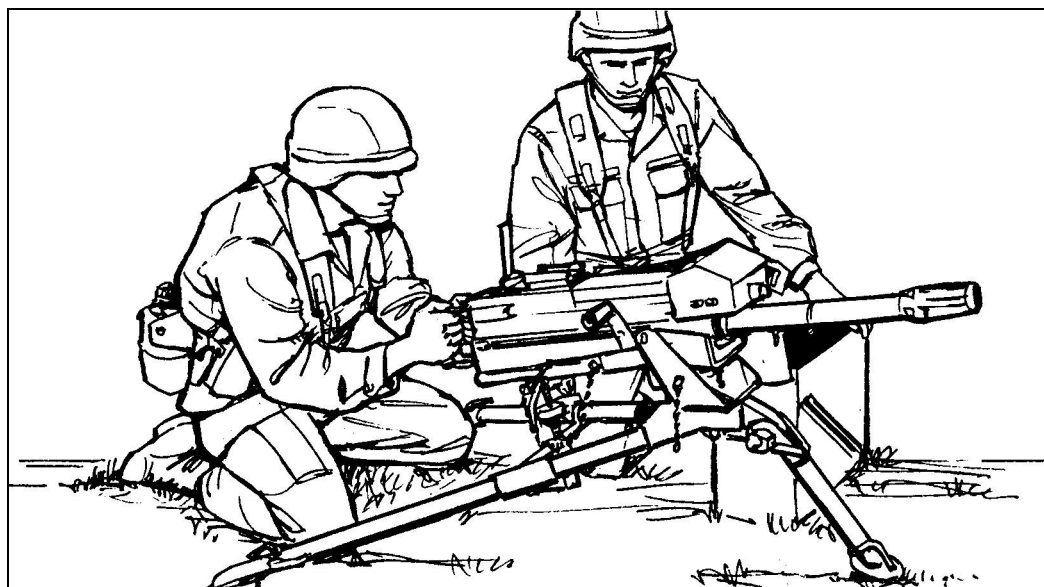

Figure 4-3. Hasty tripod position.
c. **Kneeling.** When the MK 19 is in a fighting or hasty tripod-mounted position, kneel and grasp the control grips with your thumbs on the trigger (Figure 4-3).